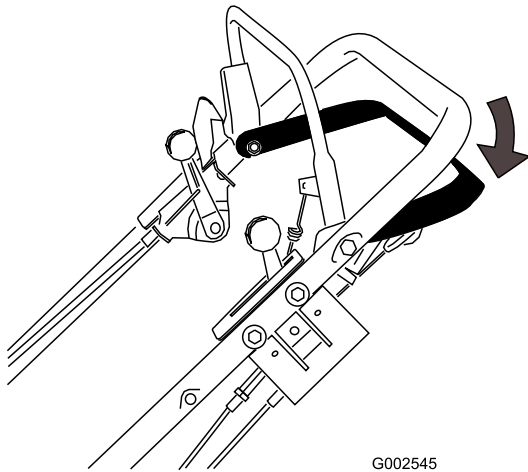

Figure 14
1. Release the traction control bar (Figure 14).